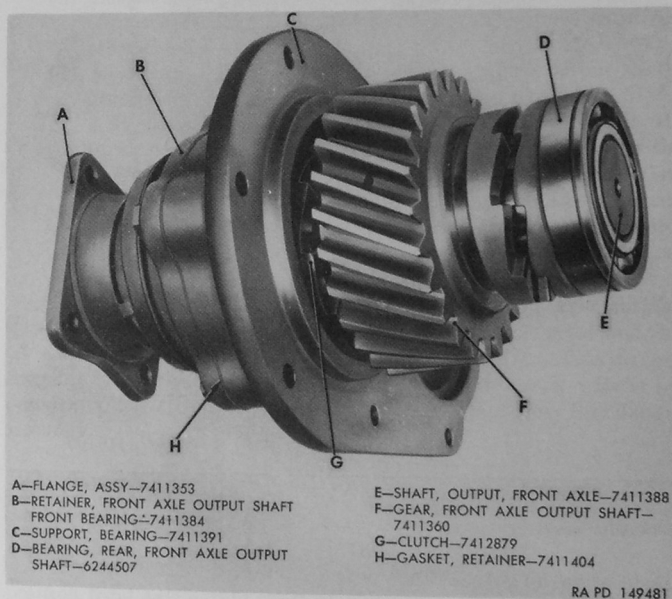

Figure 72. Front axle output shaft components assembled.
*g.* Install  $\frac{7}{8}$ -14 nut (A) on shaft threads and tighten lightly. Final tightening is done after subassembly is installed in transfer case (par. 115). Front axle output shaft components appear as shown in figure 72 when properly assembled.